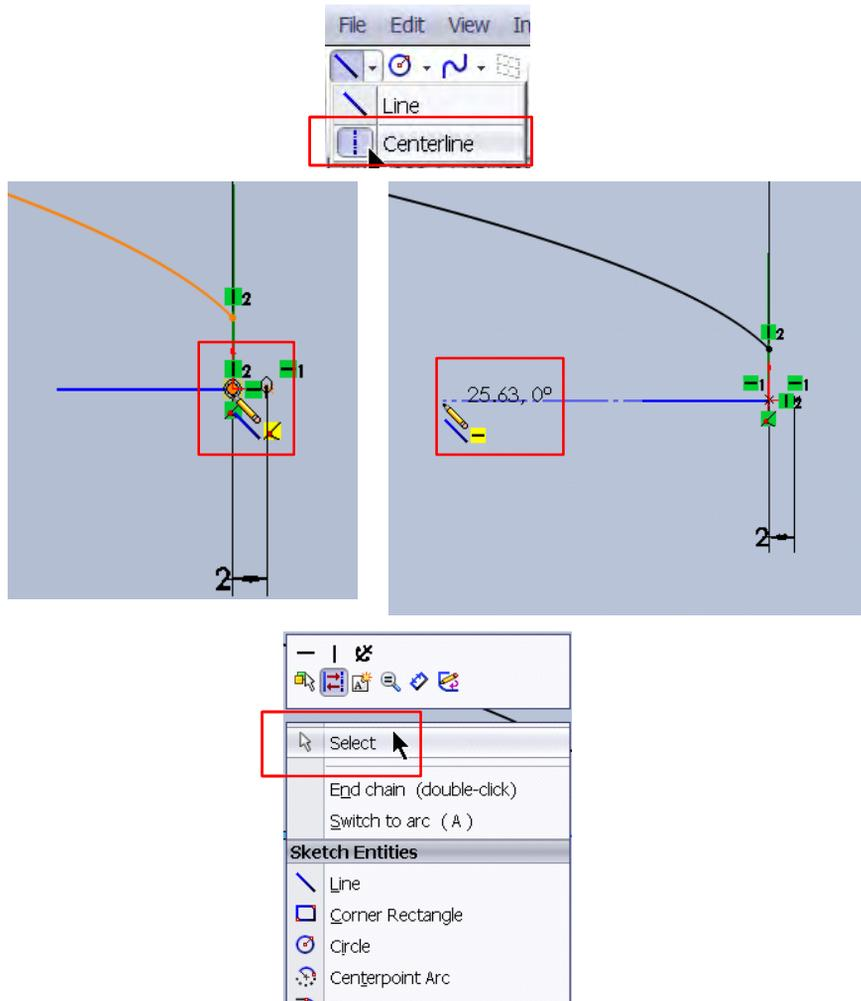

Figure 29 Views of Line menu (upper), line pointer (middle left), yellow coincidence icon (middle right), and the shortcut menu in the graphics area (lower)
- 5 Right-click the graphics area, and click **Select** to close the Line tool. See Figure 29.